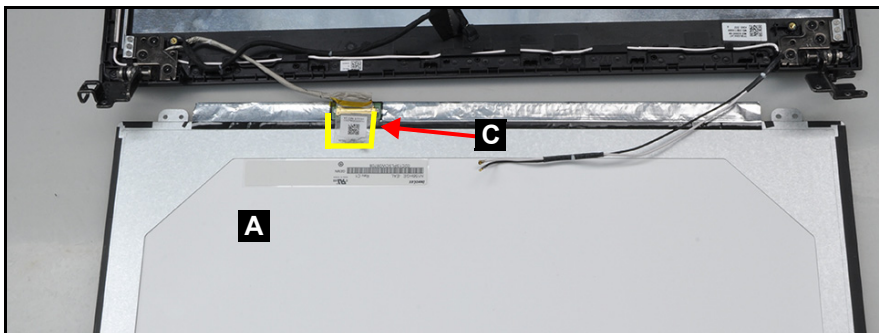

Figure 3-81. eDP Mylar Tape
1. Place the LCD panel (A) on a flat surface with the back side facing up and aligned properly to the bottom of the LCD cover as shown in Figure 3-81.
3. Adhere the clear mylar tape (C) to secure the eDP cable to the LCD panel (A) (Figure 3-81).